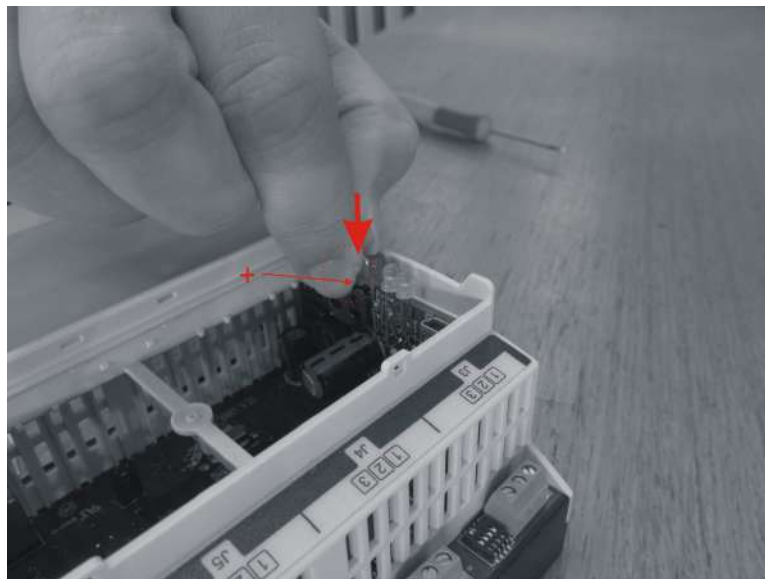

Figure 5
3. Insert standard CR 1220 battery in WBR's battery holder (Figure 5)